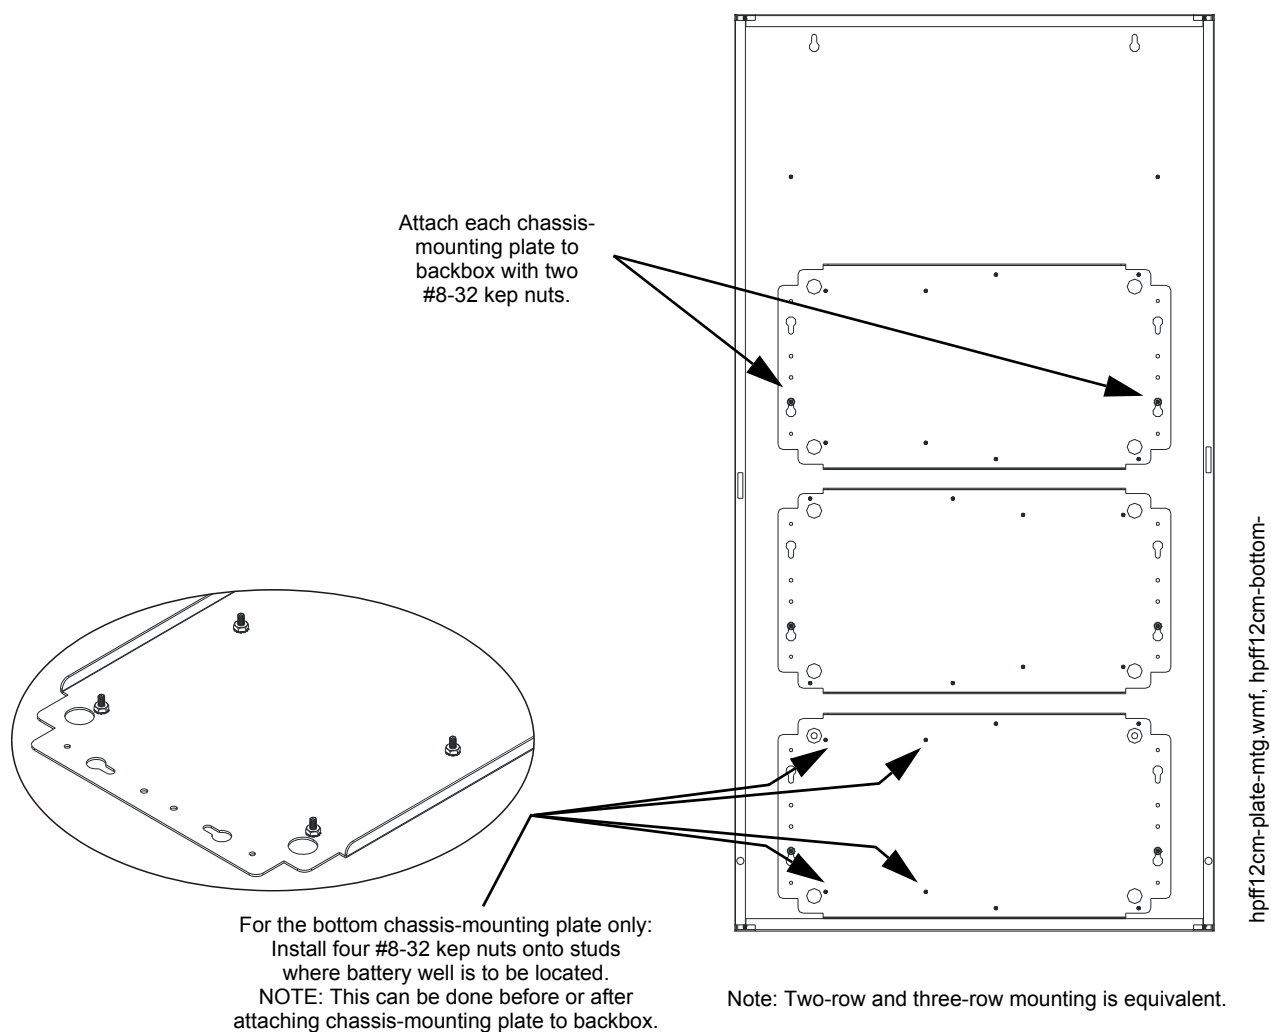

Figure 2.6 Installing Chassis-Mounting Plates onto Backbox (EQBB-D4 Shown)
2. Attach mounting plates as shown in Figure 2.6.
3. For the bottom-most chassis-mounting plate only, install four #8-32 keps nuts on the plate's studs as shown in Figure 2.6. This will properly space the battery well away from the backbox's mounting hardware.